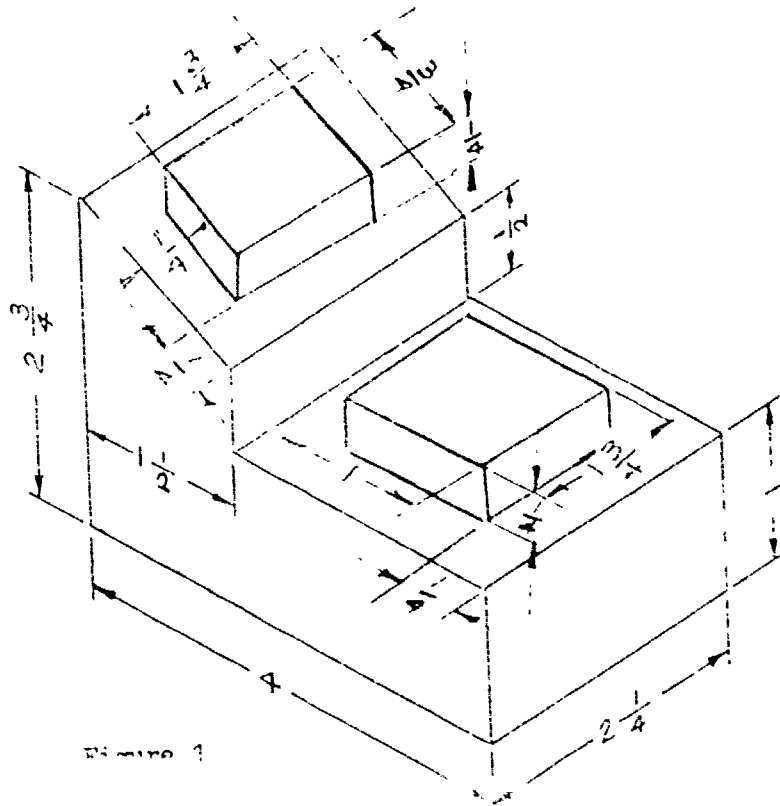

FIGURE 1
3. Draw with your drafting equipment the front, top and side views of Figure 1 on page 4. Use the correct orthographic principles of layout on the paper.